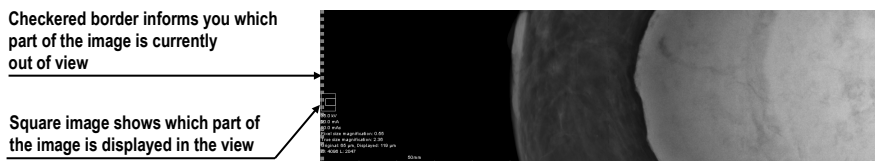

Figure 78 – Active checkered border
- The **Show checkered border when the entire image is not displayed** check box. If it is checked and the image in the mammography view is scaled in such a way that parts of the image is out of the view, the image is partially bordered with a checkered line to indicate which part of the image is displayed outside of the view (see Figure 78).